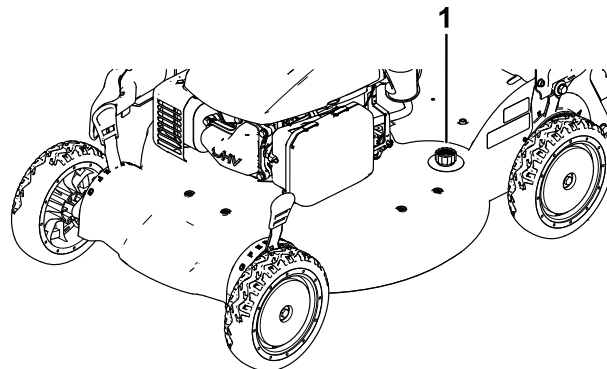

Figure 37
5. Attach a garden hose that is connected to a water supply to the washout port (Figure 37).